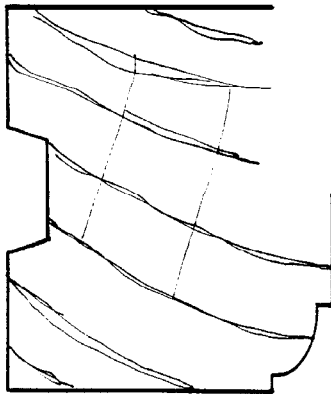

Fig. 3
9. Complete Figure 3 which shows a horizontal section through the jamb of a **traditional** window frame, to include the stile of an opening casement. Indicate methods of preventing the movement of moisture into the building and state the sizes of the members.